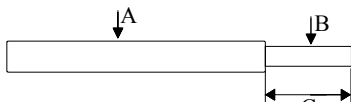

Figure 4.3-1
- It's very important for system safety and efficient operation to use appropriate cable for battery connection. To reduce risk of injury, please use the proper recommended cable size. Refer to Figure 4.3-1.